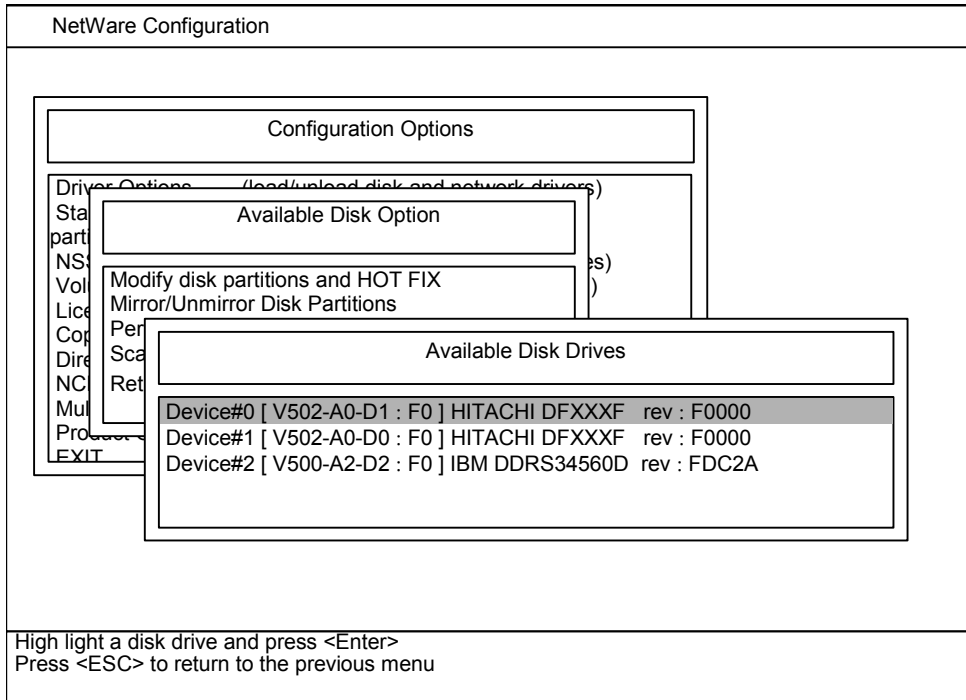

Figure 3.3 Selecting the Device to be Partitioned
4. The Available Devices screen (see Figure 3.3) lists the devices by device number. The device numbers should be recorded. On the Available Disk Drives screen, select the device to be partitioned and press **Enter**.
11. Press **Esc** until you are returned to the Available Devices screen (refer to Figure 3.3). Repeat steps (4) through (10) to create the disk partition on each new SCSI disk device.